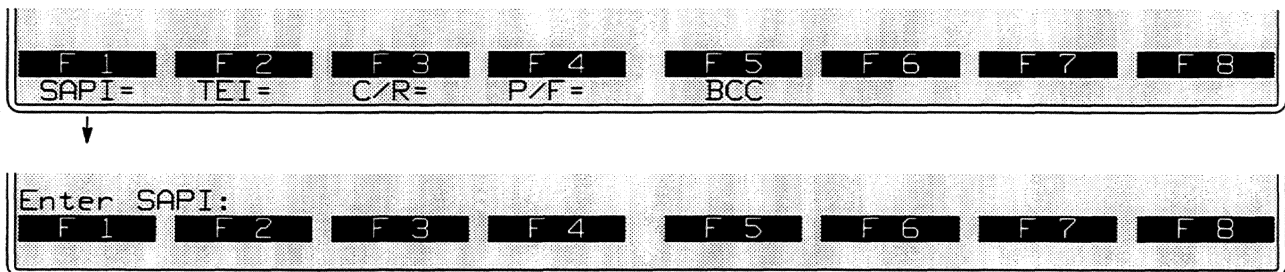

Figure 43-9 The hex value of the SAPI is entered as two alphanumerics.
6. **SAPI.** A SAPI condition may be added to all frame types. Press the softkey for SAPI=, shown in Figure 43-9. Then enter the 6-bit SAPI value as two hex digits in a range from 00 to 3F. (Do not use the **HEX** key.) The entry will appear as in this example:
To bypass the SAPI= selection (as well as the other options on the same rack of softkeys in Figure 43-9) press **DONE**.